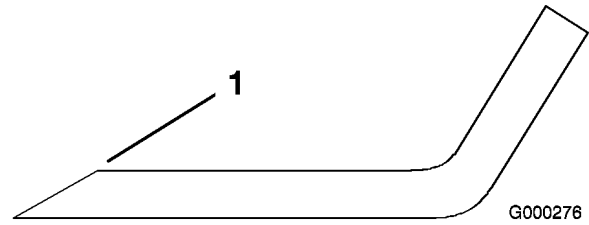

Figure 51
1. Use a file to sharpen the cutting edge at both ends of the blade (Figure 51). Maintain the original angle. The blade retains its balance if